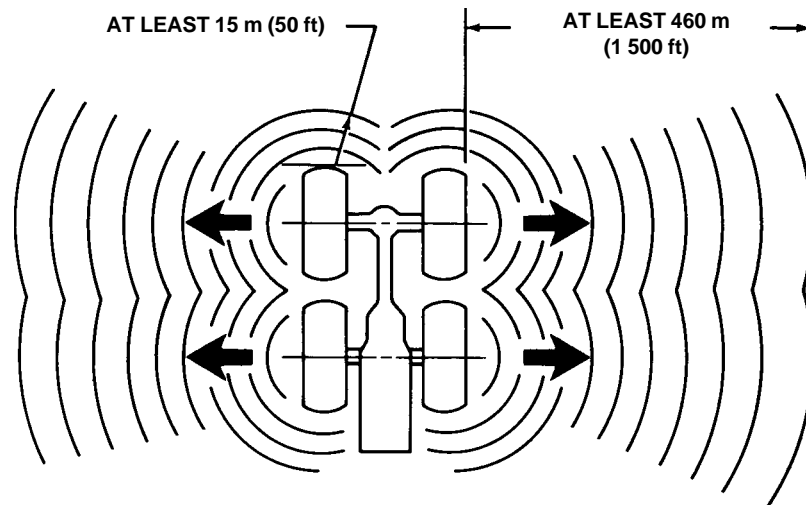

Fig. 10 - APPROACH AREA. Do Not Approach Tyre in Shaded Area
⚠️ If it is absolutely necessary to approach a machine with a suspect tyre, approach only from the front or the back. Stay at least 15 m (50 ft) from the tread area. Keep observers out of the area and at least 460 m (1 500 ft) from the tyre sidewall. Refer to Fig. 10. The tyre(s) should be allowed at least eight (8) hours cooling time after the machine is shut down or the fire extinguished before approaching closer.